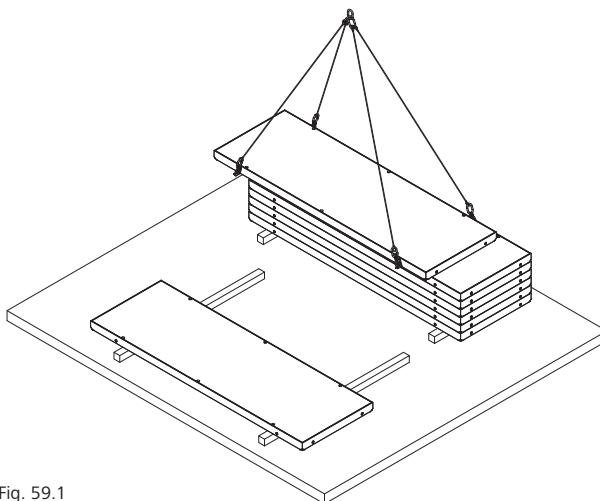

Fig. 59.1
2. Move one panel at a time onto dunnage face-up (Fig. 59.1). Dunnage should raise the panel at least 5 1/2" and be clear of the lift points to allow access for crane hooks.